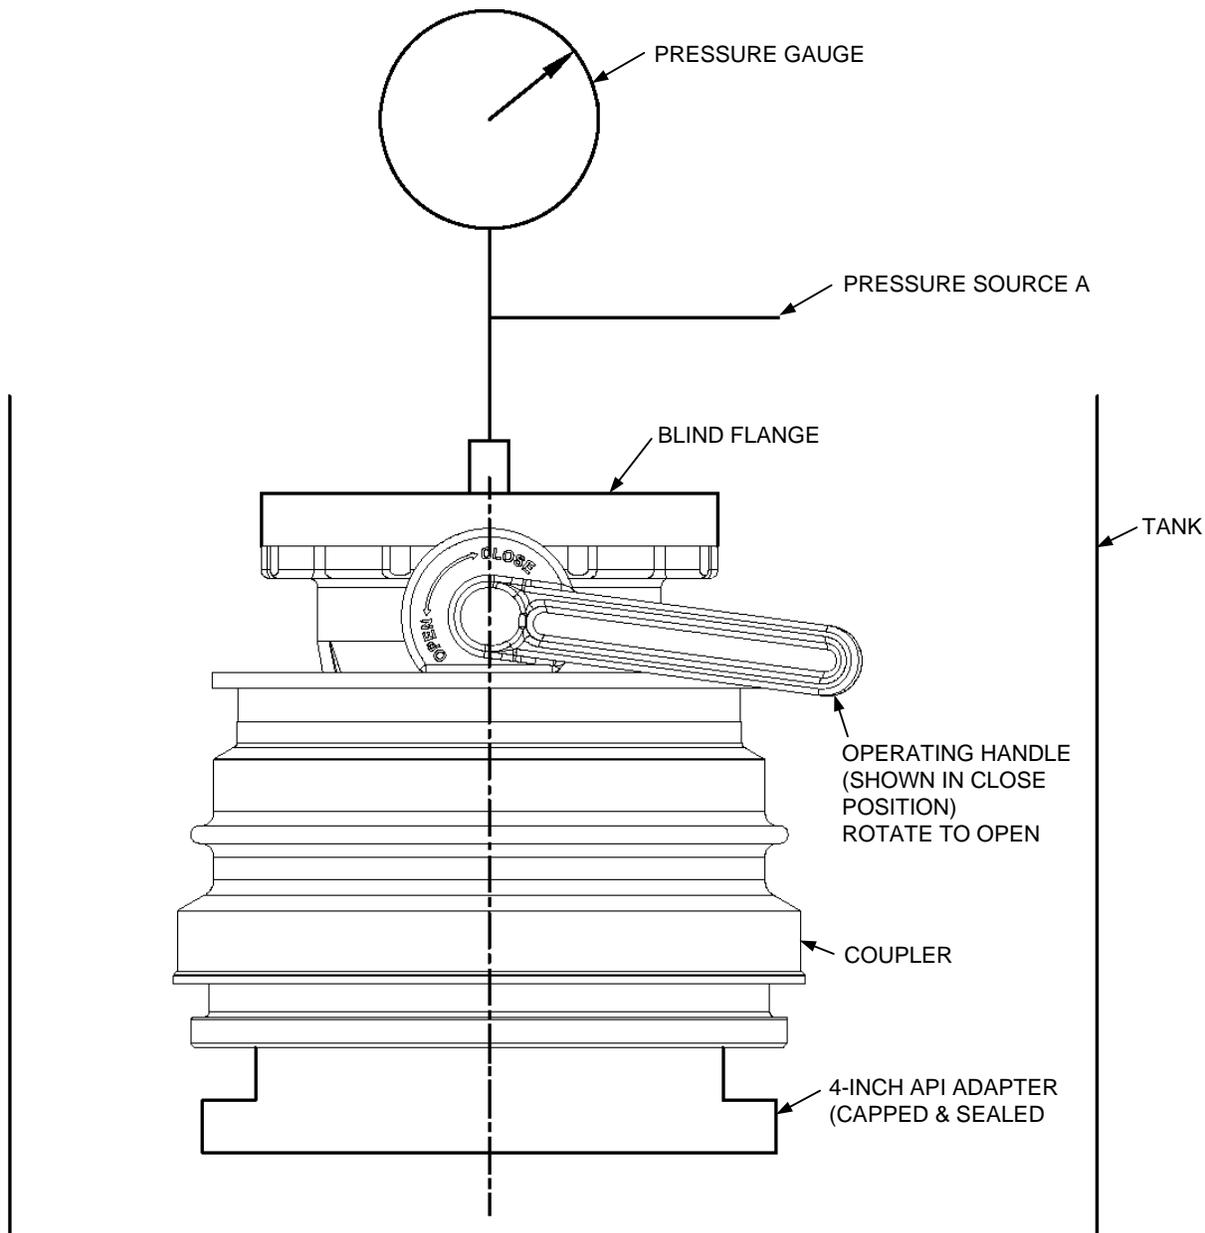

Figure 4. Functional and Leakage Test
A. Functional Test (See Figure 4)
C. Leakage Test (See Figure 4)